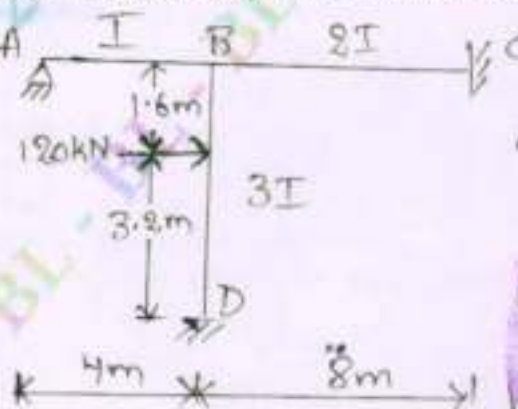

Fig. Q10
- 10 Analyze the portal frame shown in Fig. Q10 by stiffness matrix method. Draw BMD.